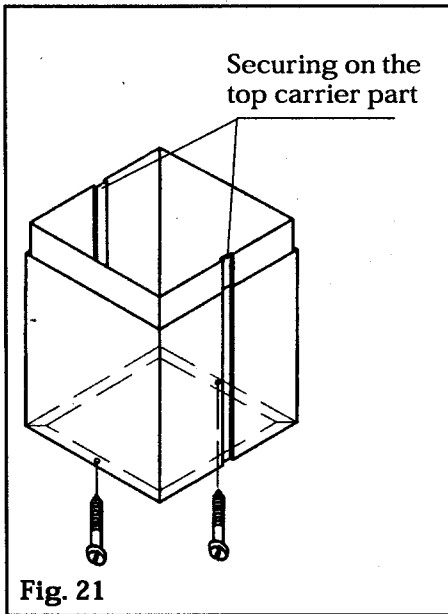
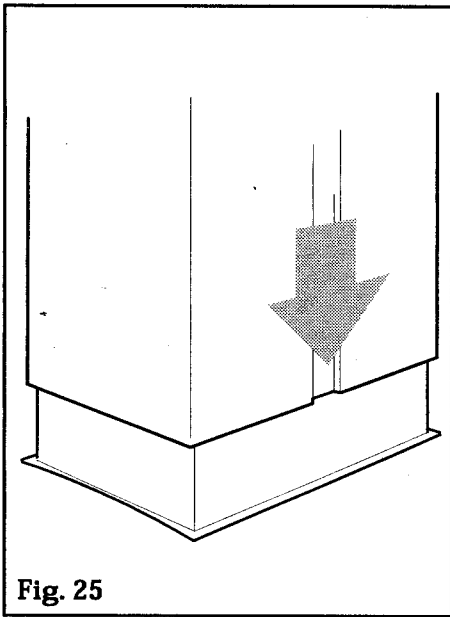

Fig. 21
Fig. 25
10. As shown in Fig. 21, slide the duct covers completely inside each other and, by means of the enclosed sheet metal screws (3 x 9 mm) screw them to the base of the bottom duct covers.
15. Now undo the screwed joint on the two duct covers (Fig. 21). Pull the bottom duct cover into the recess of the insular hood (Fig. 25).